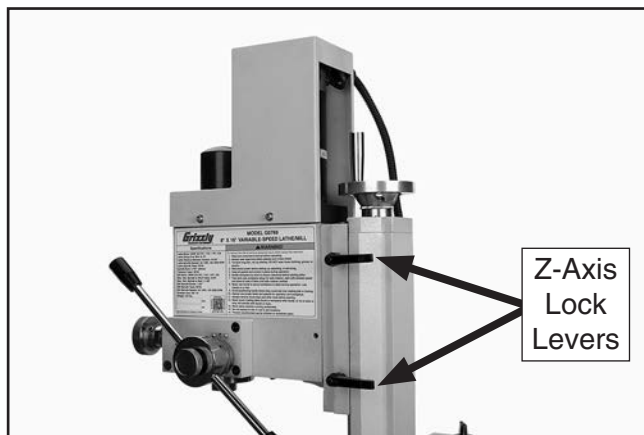

Figure 102. Location of Z-Axis lock levers.
2. Loosen both Z-axis lock levers shown in **Figure 102**.